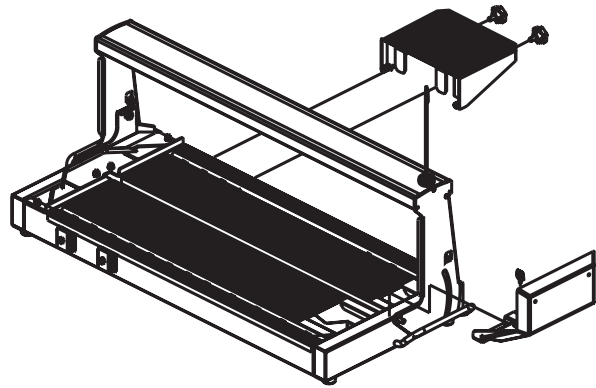

Figure 3
1. Install the side table and splash guard as shown in figure 3 to the side. Fasten the screws respectively to the saw frame.